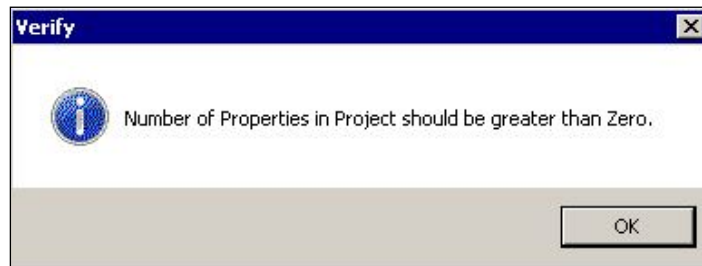

Figure 8-10: Verification Error Warning Message
2. If any required fields are empty, error messages will be displayed indicating the missing field and the Application Development tab where you can enter the missing information (Figure 8-10).